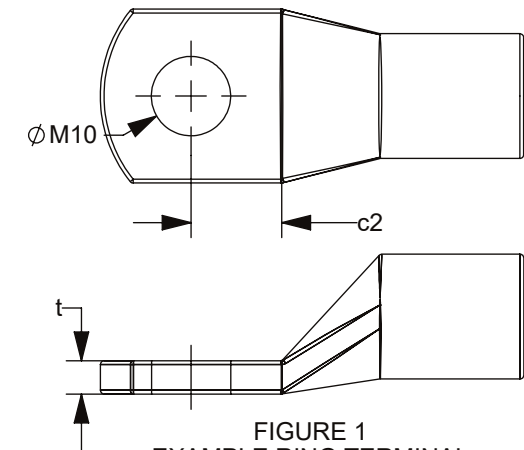

FIGURE 1
2. ASSEMBLE THE ISOLATED BOLT, M10 RING TERMINAL, & M10 ZCASE TO THE BASE ASSEMBLY. SECURE THE BOLT TO 16 ± 2 N·m. BE SURE THE RING TERMINAL DIMENSIONS MATCH THE FOLLOWING REQUIREMENTS (FIGURE 1):